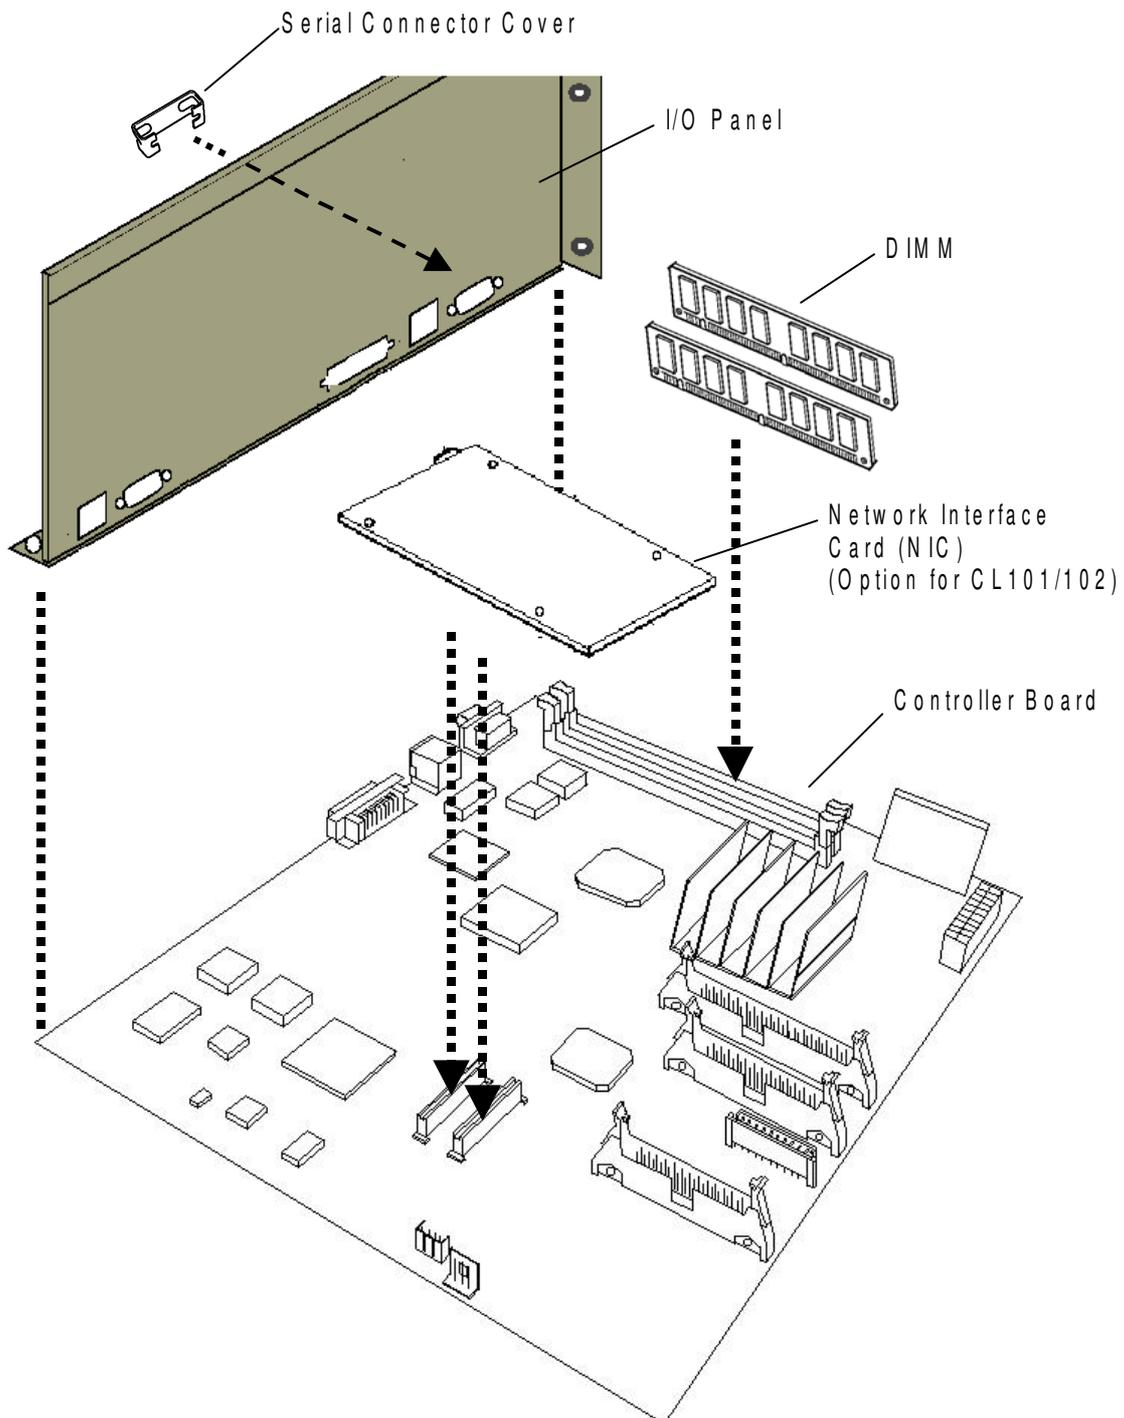

Figure 4-1. Controller Assembly and Parts
See Figure 4-1 for an overview of controller assembly components. Replacement parts are available from your authorized service representative.
A diagram of the controller assembly is shown in Figure 4-1. When the entire controller assembly is installed inside the printer, the ports for external devices are accessible from the back panel of the printer.
4. The controller board is now accessible. A diagram of the controller assembly is shown in Figure 4-1.